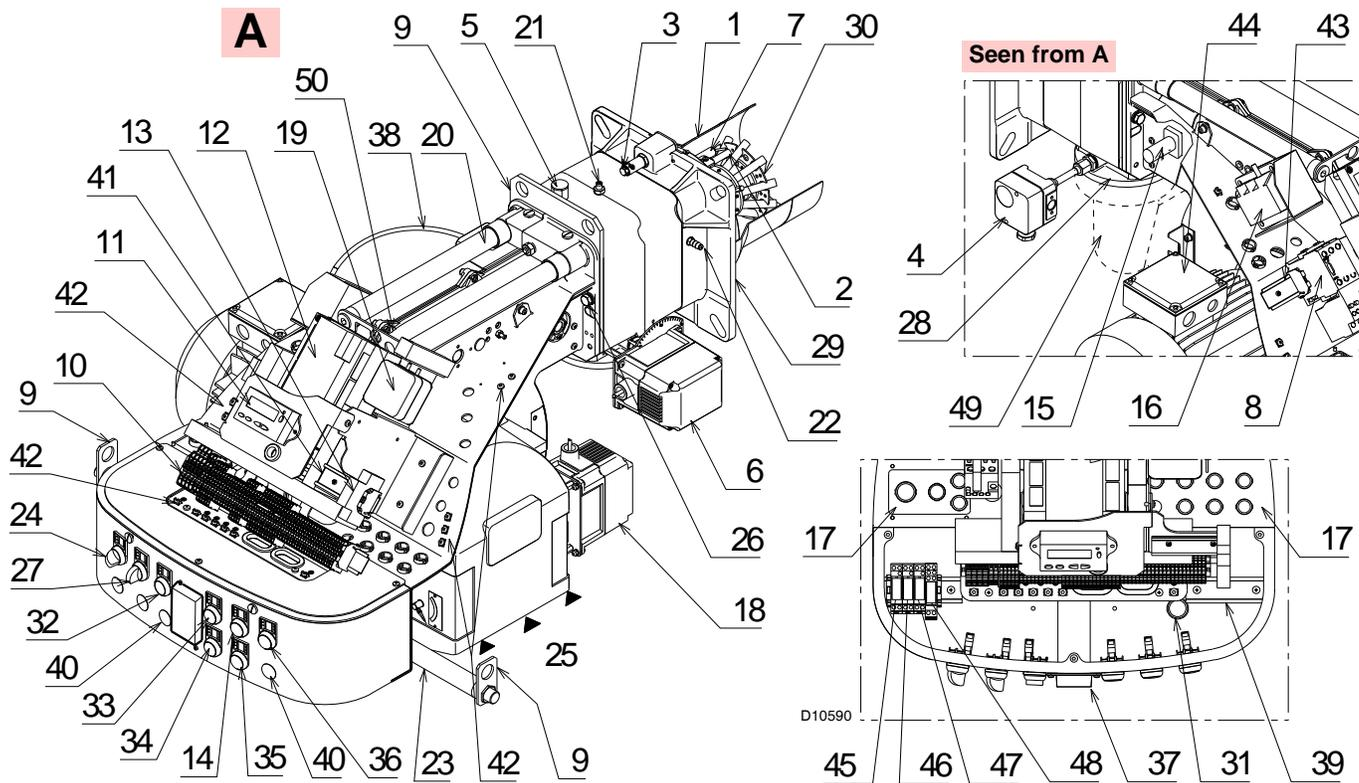

Fig. 3
- (1) Reference conditions: ambient temperature 68 °F (20 °C) - Barometric pressure 394" WC - Altitude 329 ft.
(2) Pressure at test point 21)(Fig. 3), with zero pressure in the combustion chamber, with open gas ring 2)(Fig. 21) at maximum burner output
(3) Sound pressure measured in manufacturer's combustion laboratory, with burner operating on test boiler and at maximum rated output.
If the flame safeguard alarm 36)(Fig. 3) lights up, it indicates that the burner is in lock-out. To reset, press the reset pushbutton.
release by pressing the pushbutton on thermal overload 8)(Fig. 3). See "Thermal relay calibration" on page 23.